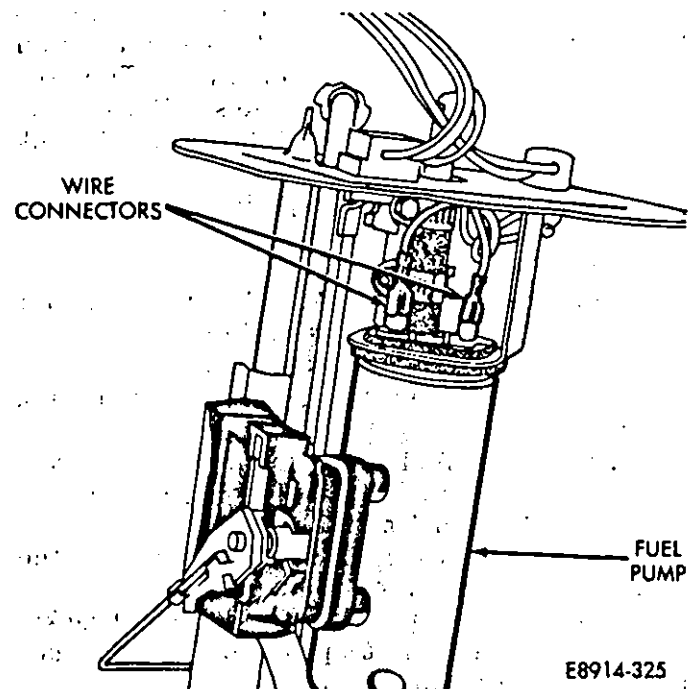

Fig. 18—Fuel Pump Wire Connectors
(1) Disconnect battery ground cable.
(2) Remove the fuel tank. Refer to Fuel Tank Removal.
(3) Remove the fuel pump/sender assembly from the fuel tank. (See Fuel Supply System Section—Fuel Pump/Sender Unit Removal).
(4) Disconnect wire connectors and from the terminals on top of fuel pump (Fig. 18).
(4) Install electrical connectors to terminals on fuel pump (Fig. 18).